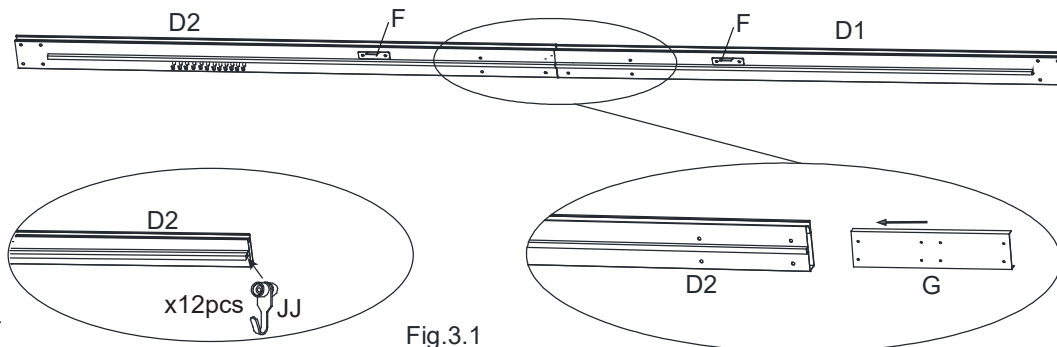

Fig.3.1
3.1. Slide the Hanger (JJ) onto the Long Right Lintel (D2), See Fig.3.1